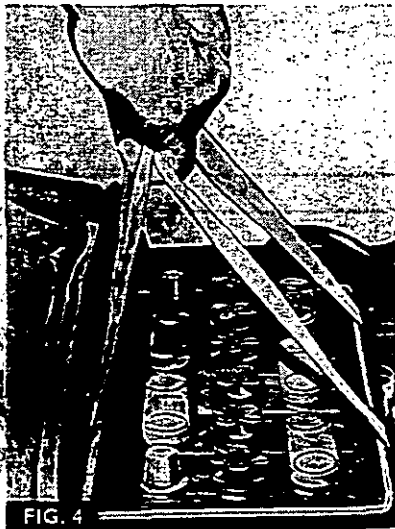

FIG. 4
- 4a. Fig. 4. If a battery harness is fitted lift out the battery.